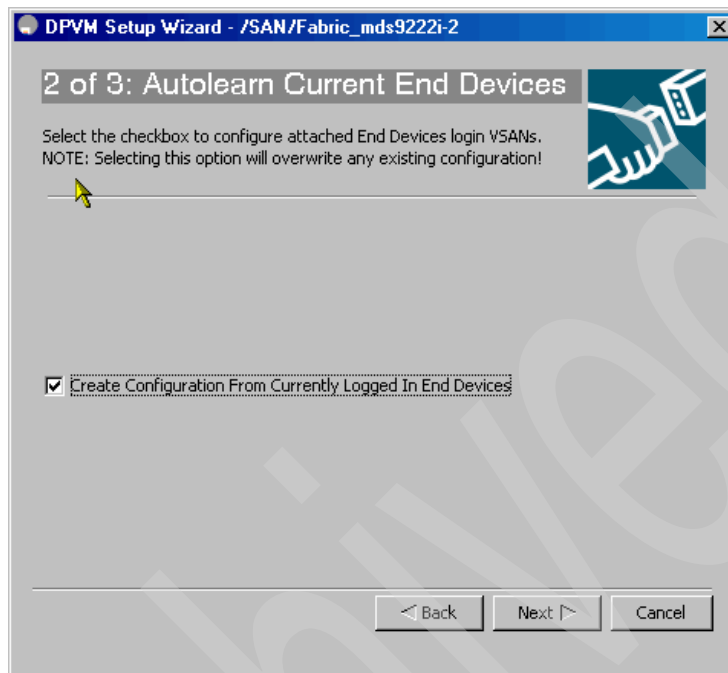

Figure 6-44 Creating configuration from end devices currently logged in
3. Select to create the configuration from already logged-in devices, as shown in Figure 6-44.